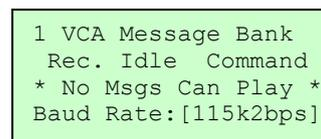

Figure 42 - PC to VCA Communication Indication
9. Click the **Connected** check box to establish communication between the PC and the VCA. This should cause the **Send** and **Receive** boxes to flash green, as shown in Figure 42. The VCA connection status box at the bottom left corner of the main window should also turn green and read **Connected** to indicate that the connection has been established, again shown in Figure 42. At the same time the VCA Message Bank page will display the text "Rec. Idle Command", indicating that it communicating with the PC, shown in the figure on the right.